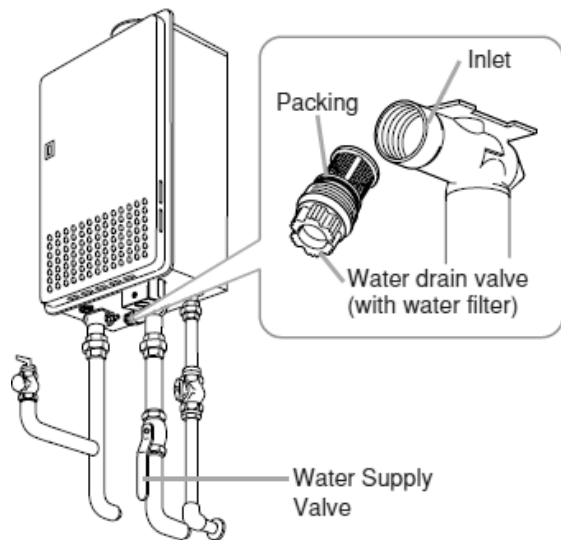

Fig. 41
4. Take the water drain valve (with water filter) out of the inlet. (See Fig. 41).